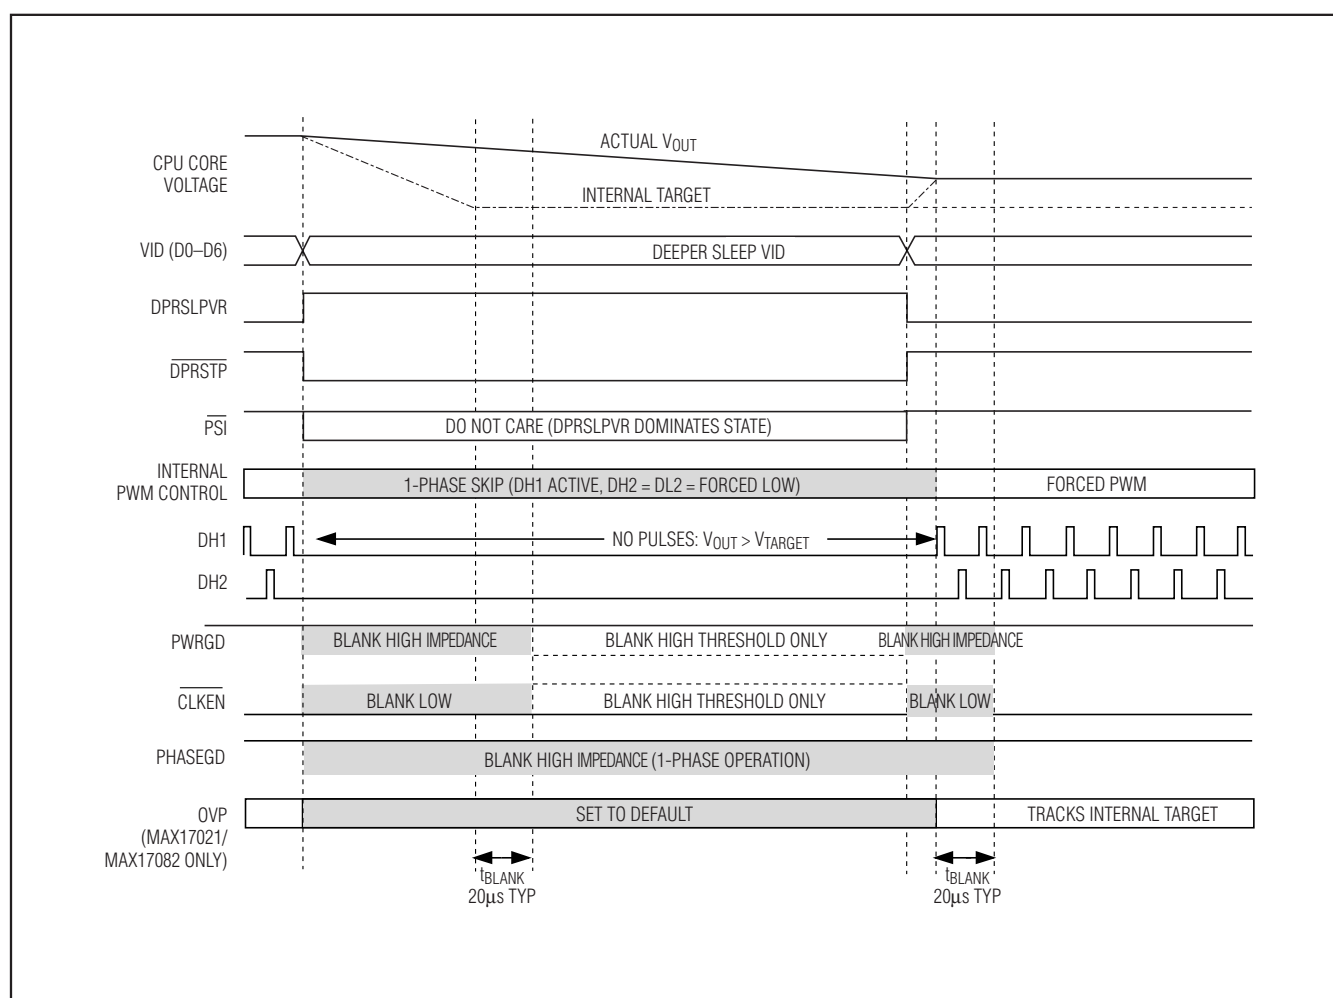

Figure 5. C4E (C4 Early Exit) Transition
When DPRSLPVR goes high, the MAX17021/MAX17082/MAX17482 immediately disable phase 2 (DH2 and DL2 forced low), blank PHASEGD high impedance, and enter pulse-skipping operation (see Figures 5 and 6). If the VIDs are set to a lower voltage setting, the output drops at a rate determined by the load and the output capacitance. The internal target still ramps as before, and PWRGD remains blanked high impedance until 20 μs after the output voltage reaches the internal target.
- **Fast C4E Deeper Sleep Exit:** When exiting deeper sleep (DPRSLPVR pulled low) while the output voltage still exceeds the deeper sleep voltage, the MAX17021/MAX17082/MAX17482 quickly slew (50mV/ μs min regardless of R_{TIME} setting) the internal target voltage to the DAC code provided by the processor as long as the output voltage is above the new target. The controller remains in skip mode until the output voltage equals the internal target. Once the internal target reaches the output voltage, phase 2 is enabled. The controller blanks PWRGD, PHASEGD, and $\overline{\text{CLKEN}}$ until 20 μs after the transition is completed. See Figure 5.